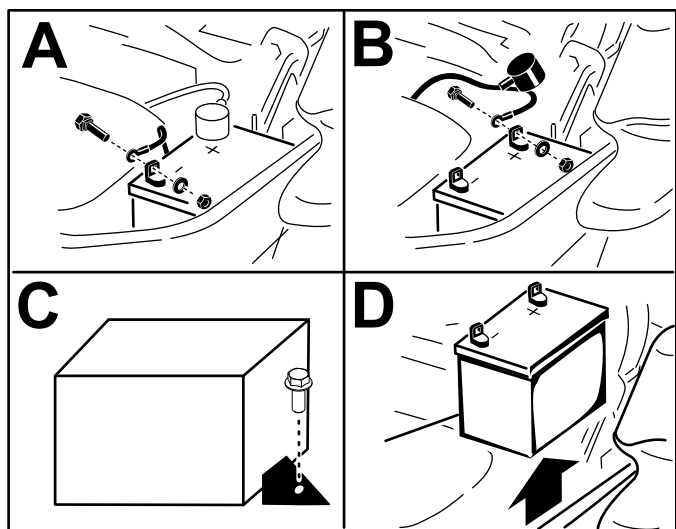

Figure 75
5. Remove the battery as shown in Figure 75.